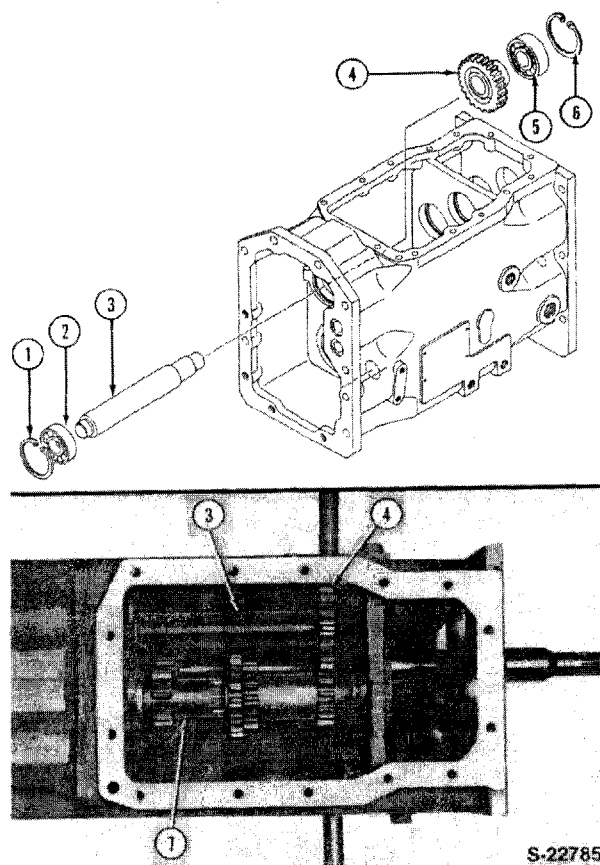

Figure 21
Reference — Figure 21
1. Remove the front snap ring (1), Figure 21.